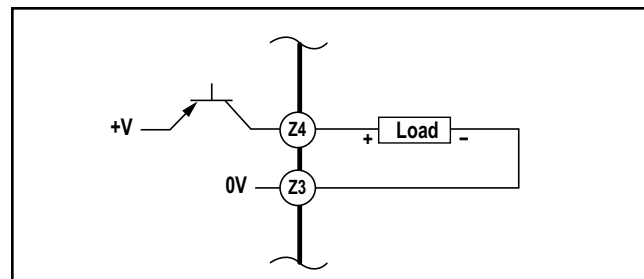

Figure 3-11b. AUX output hookup – MMD-TA-12B
**Model MMD-TA-12B:** A non-safety-related PNP output is available at terminals Z3–Z4. This monitoring output is for light-duty, non-safety-related control functions, such as an input to a programmable logic controller (PLC). This output follows the OSSD outputs. Maximum current draw of the AUX output is 250 mA. See Figure 3-11b.